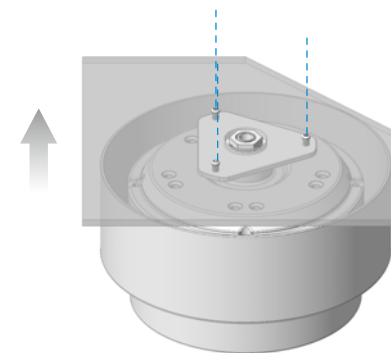

Fig. 1.1
- 1.1 Remove the motor parts from the box. Use a screwdriver to loosen the three light kit assembly screws from the MDF and remove the MDF as shown in Fig. 1.1. The MDF is used to protect the motor hub during transportation. Keep the screws for later use.